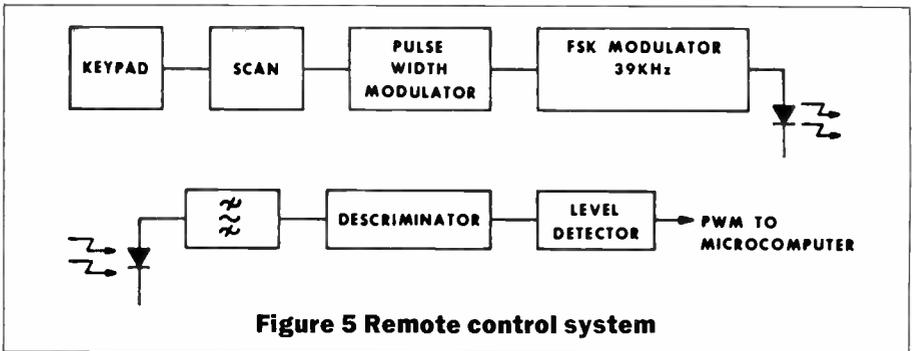

Figure 5 Remote control system
Figure 5 shows a block diagram of the transmitter and receiver system. A circuit in the transmitter IC scans the remote transmitter keypad. When a key is depressed, a code representing the key is generated. This code is pulse-width modulated (PWM), meaning that a series of pulses is generated—a long pulse representing a logic 0 and short pulse representing a logic 1. This train of pulses then frequency modulates a 39 kHz carrier, which on/off (AM) modulates an infrared light-emitting diode.
Referring again to Figure 5, many remote control systems utilize an FSK carrier at about 39 kHz. By changing the carrier frequency, some discrimination is obtained. Further security is obtained by transmitting both true and comple-